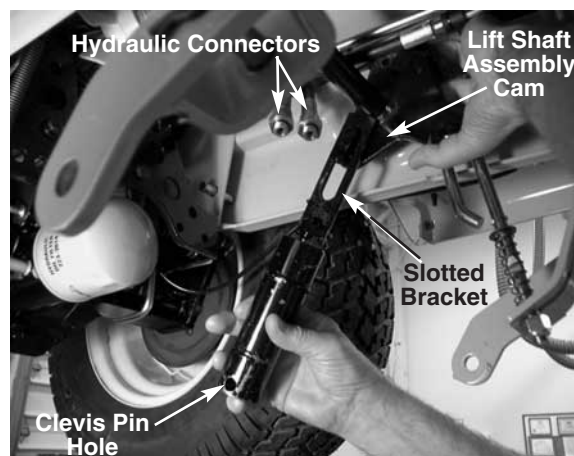

FIGURE 3.
8. Pivot the cylinder down 90 degrees and release the slotted bracket from the lift shaft assembly cam. See figure 3.